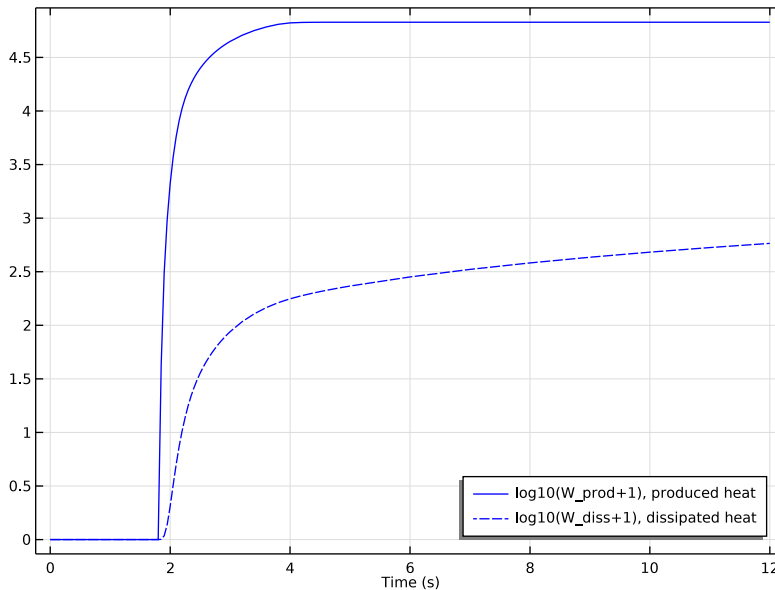

Figure 7: Comparison of total produced heat (solid line) and dissipated heat (dashed).
To investigate how much of the generated heat is dissipated to the air, study the surface integrals of the produced heat and the dissipated heat. These integrals give the total heat rate (W) for heat production,  $Q_{\text{prod}}$ , and heat dissipation,  $Q_{\text{diss}}$ , as functions of time for the brake disc. The time integrals of these two quantities,  $W_{\text{prod}}$  and  $W_{\text{diss}}$ , give the total heat (J) produced and dissipated, respectively, in the brake disc. Figure 7 shows a plot of the total produced heat and dissipated heat versus time. Eight seconds after the driver has stopped braking, a mere fraction of the produced heat has dissipated. In other words, in order to cool down the system sufficiently the brake needs to remain disengaged for a lot longer period than these eight seconds (100 seconds, in fact).